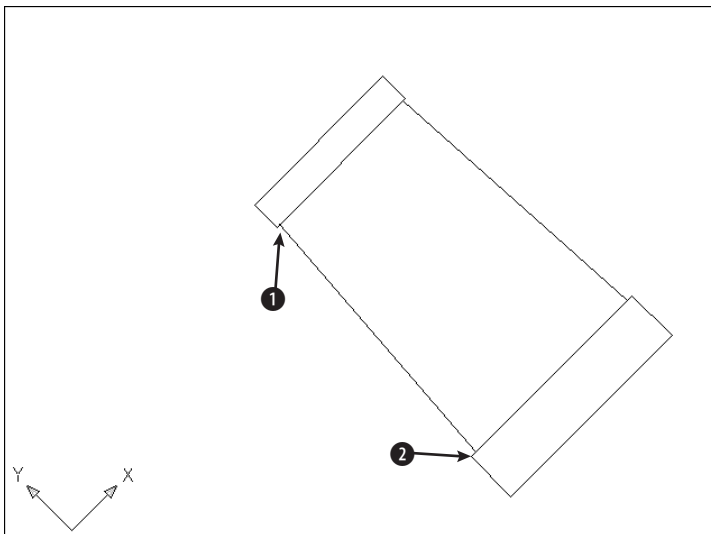

Figure 8-26: The completed framework for the bearing housing
8. Start the LINE command. At the Specify first point: prompt, choose the From object snap. At the Base point: prompt, use the endpoint object snap to pick ❶ in Figure 8-26. At the <Offset>: prompt, type **@1/16,0** ↵.
9. At the Specify next point or [Undo]: prompt, again choose From. At the Base point: prompt, use the endpoint object snap to pick ❷. At the <Offset>: prompt, type **@1/8,0** ↵ to complete the model, as shown in Figure 8-26. End the LINE command.